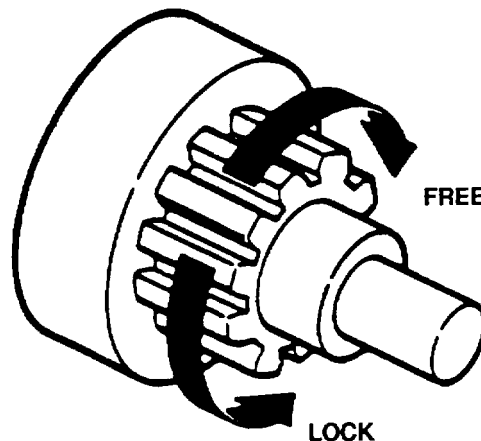

FIGURE 3-25. Overrunning Clutch
- g. When pinion gear is placed upon overrunning clutch, pinion gear should turn freely in one direction and lock when turned in opposite direction. Refer to FIGURE 3-25.